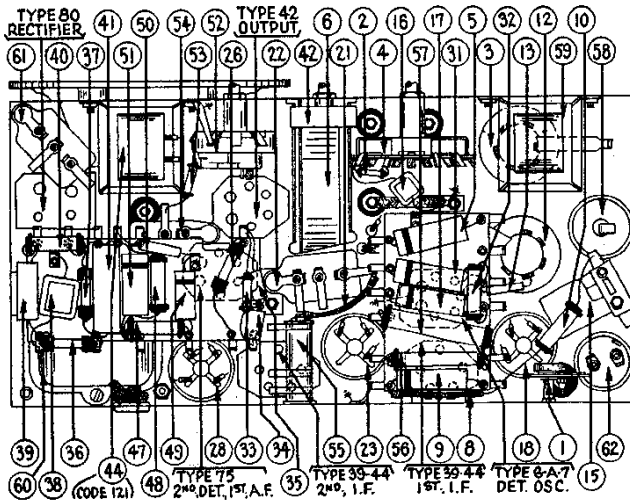

Fig. 4—Bottom View Showing Parts
**ADJUSTMENT OF THE WAVE TRAP**—Replace the grid clip upon the Detector-Oscillator tube (Type 6A7). Connect the output leads from the signal generator directly to the antenna and ground terminals of the receiver. Set the Wave-Band Switch of the receiver to the standard broadcast band (left hand position) and the Station Selector at the low frequency (540 K.C.) end. Adjust the Wave Trap condenser to give MINIMUM response to a 460 K.C. signal from the signal generator. The Wave Trap (1) is located at rear and underneath the chassis, and is shown in Figure 4. It is reached from the rear of the chassis, by inserting the fibre wrench thru the hole near right-hand rear corner of chassis.
Finally set the signal generator at 800, tune in this signal and adjust the oscillator "L. F. condenser", located underneath chassis (4) in Fig. 4) to maximum reading. This adjustment is reached thru the hole in top of chassis, between the two electrolytic condensers (left hand end of chassis when facing rear).
①	Resistor (.1 meg.) (White-White-Orange).....	4411	.25
②	Condenser (.01 Mfd. Tubular).....	30-4124	.35
③	*Does not appear in Fig. 4.
④	Condenser (.00225 Mfd. Mica).....	5858	.55
⑤	Condenser (1 Mfd. Tubular).....	30-4122	.35
⑥	Volume Control and On-Off Switch.....	33-4065	1.45
⑦	Resistor 10,000 ohms (Brown-Black-Orange).....	32-1000	.25
⑧	Condenser (Code 121) (.05 Mfd.) (Bakelite Block).....	3315-W	.35
⑨	Condenser (Code 122) (.09 Mfd.) (Bakelite Block).....	4899-1M	.35
⑩	Voltage Divider (8C Resistor 22—235 ohms) (Wire wound).....	33-3037	.20
⑪	Resistor 1 meg (White-White-Orange).....	3767	.25
⑫	Resistor 23,000 ohms (Orange-Red-Orange).....	32-1026	.35
⑬	Condenser (Electrolytic—6 Mfd.).....	39-2020	1.40